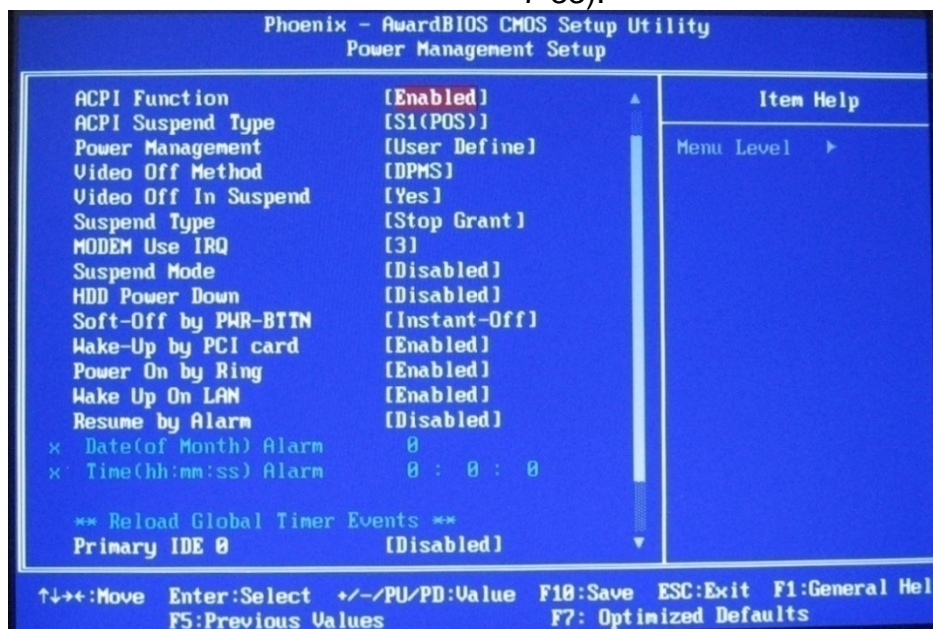

Figure 7-33 Power Management Setup
23. On the **Power Management Setup** page. **No change**. Press **Enter**. (Figure 7-33).